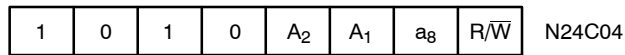

Figure 3. Slave Address Bits
The Master initiates data transfer by creating a START condition on the bus. The Master then broadcasts an 8-bit serial Slave address. For normal Read/Write operations, the first 4 bits of the Slave address are fixed at 1010 (Ah). The next 3 bits are used as programmable address bits when cascading multiple devices and/or as internal address bits. The last bit of the slave address, R/W, specifies whether a Read (1) or Write (0) operation is to be performed. The 3 address space extension bits are assigned as illustrated in Figure 3. A_2 and A_1 must match the state of the external address pins, and a_8 is internal address bit.